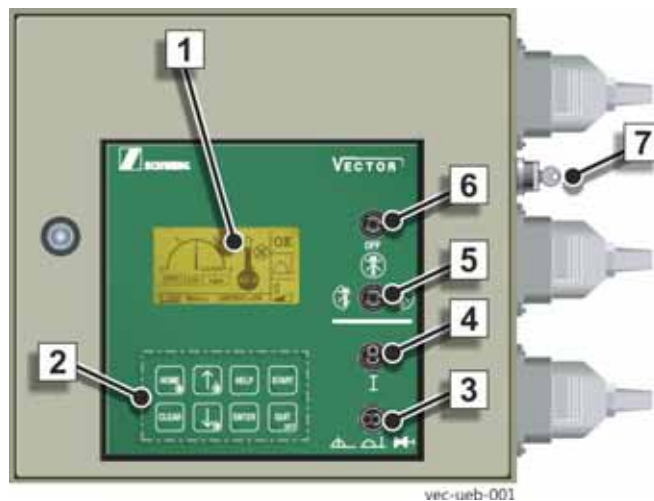

Fig. 325
- Flip the selector switch (3) (**Fig. 325**) to the "Pumping piston change" position.
Display (1) (**Fig. 325**) contains a relevant note (see "**VECTOR control system**" on page 125).
- Enable the control with the button (4) (**Fig. 325**).